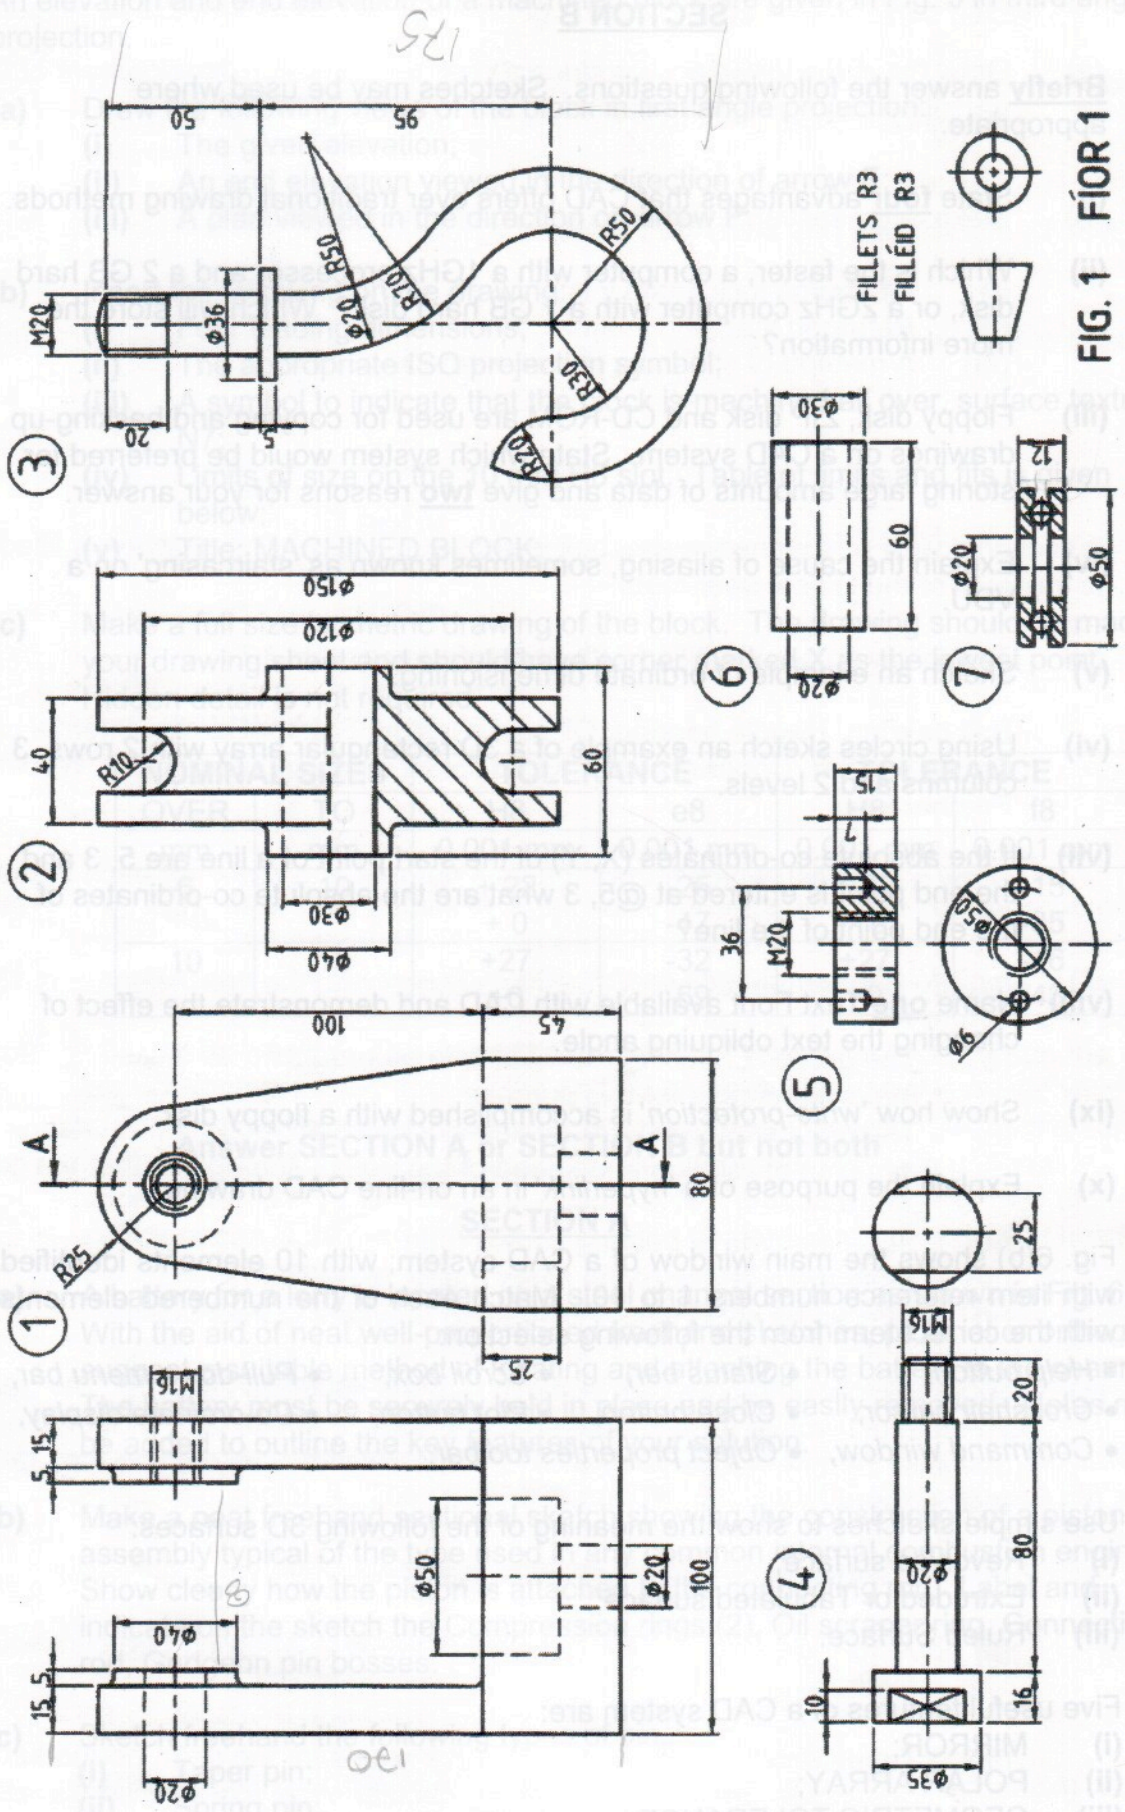

FIG. 1 FÍOR 1
1. Details of a Crane Hook are given in Fig. 1 with a parts list tabulated below.